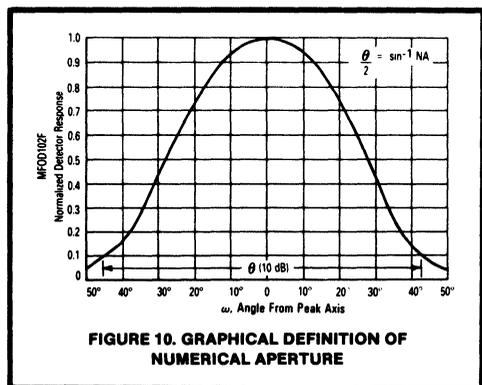
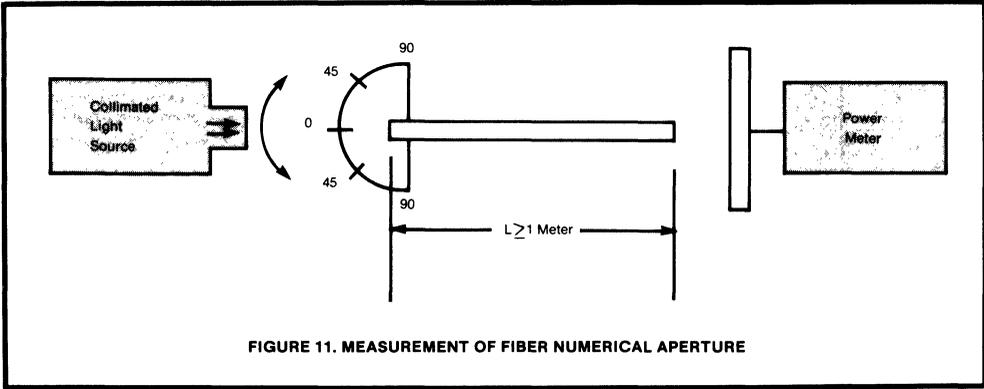

FIGURE 10. GRAPHICAL DEFINITION OF NUMERICAL APERTURE
FIGURE 11. MEASUREMENT OF FIBER NUMERICAL APERTURE
Also, some rays may enter at angles very close to the critical angle. In bouncing along the fiber, their path length may be considerably longer than rays at shallower angles. Consequently, they are subject to a larger probability of absorption and may, therefore, never be recovered at the output end. However, for very short lengths of fiber, they may not be lost. These two effects, plus the presence of light in the cladding for short lengths, results in the N.A. not cutting off sharply according to equations (10) and (12) and of appearing larger for short lengths. It is advisable to define some criteria for specifying N.A. At Motorola, N.A. is taken as the acceptance angle for which the response is no greater than 10 dB down from the peak value. This is shown in Figure 10. Figure 11 shows a typical method